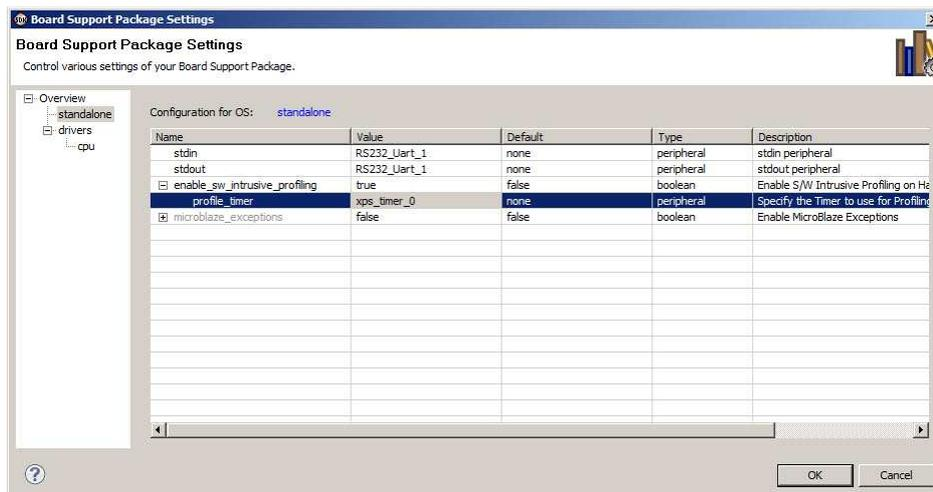
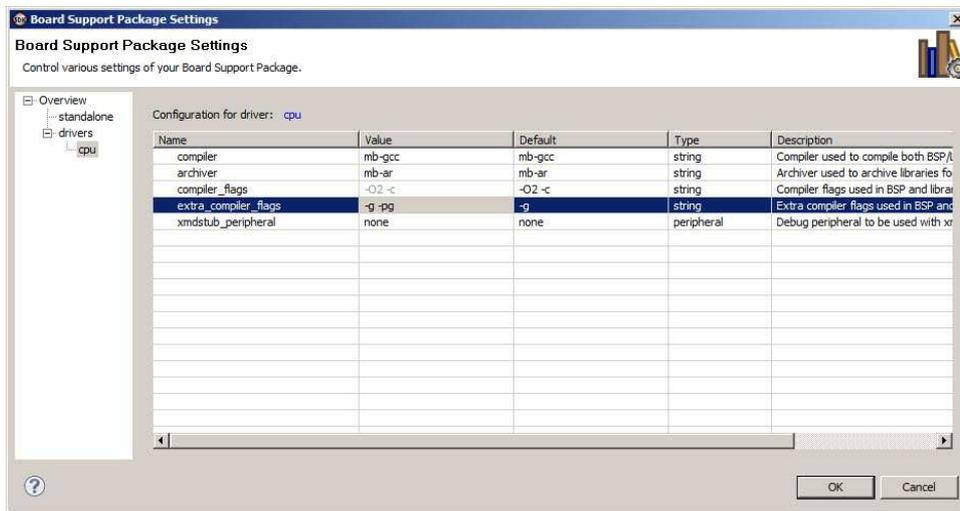

Figure 22. Xilinx Board Support Package standalone Settings (Step 4)
Figure 23. Xilinx Board Support Package cpu Settings (Step 4)
**Step 4:** The next step is to create the Xilinx Board Support Package. In the project explorer window, select File -> new. A new project window will appear as shown in **Figure 22**. A list of projects that can be created is shown. Select “Xilinx Board Support Package” which will enable you to create a standalone board support package (no operating system). As seen in Figure 23.